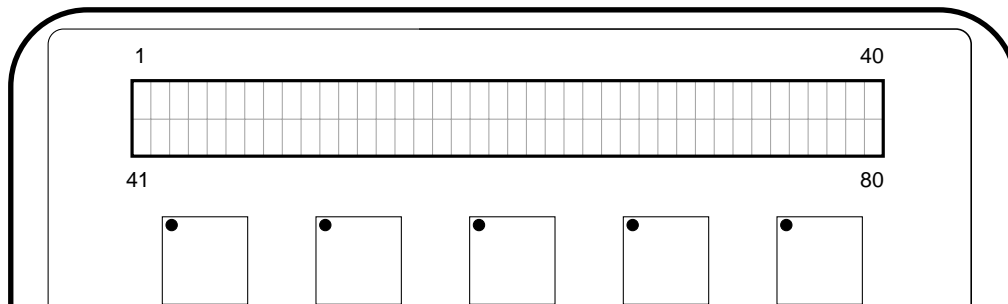

Figure 11-2. Pendant LCD Display
\$CHR(12) clears the pendant and places the cursor at position 1 (see Figure 11-2 on page 297). \$CHR(18) indicates that the next value received should be interpreted as a cursor location. \$CHR(20) indicates the cursor should be placed at position 20. /S must be appended to the WRITE instruction or a <CR-LF> will be sent. Notice that using control code 18 allows you to position the cursor without disturbing existing text.